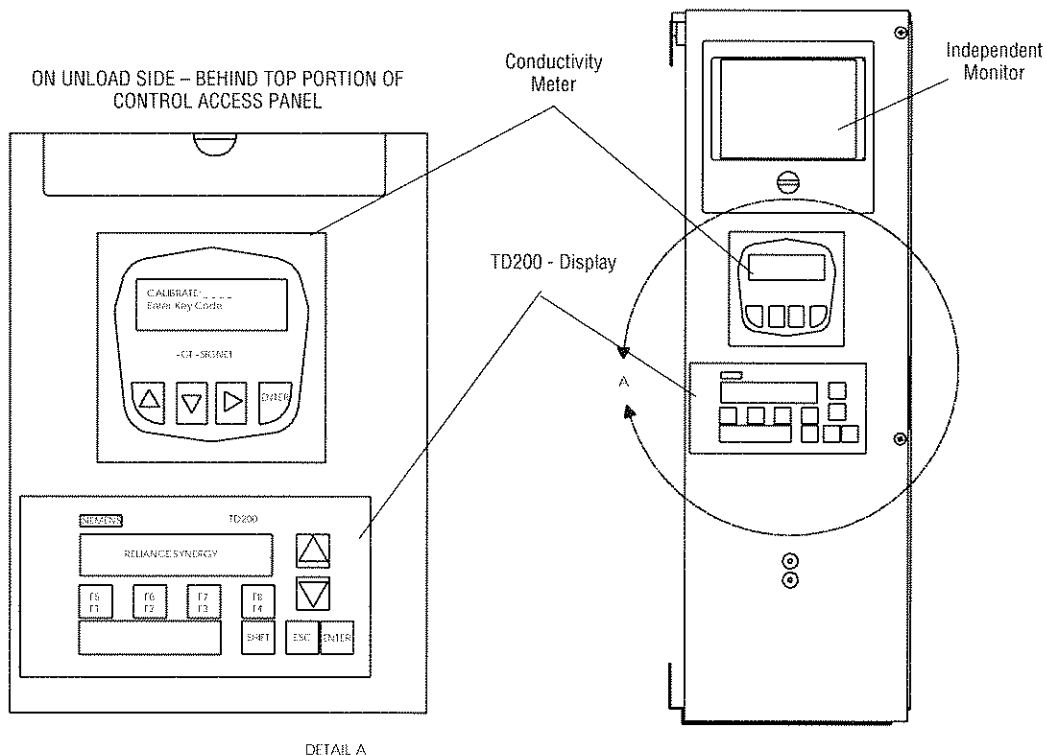
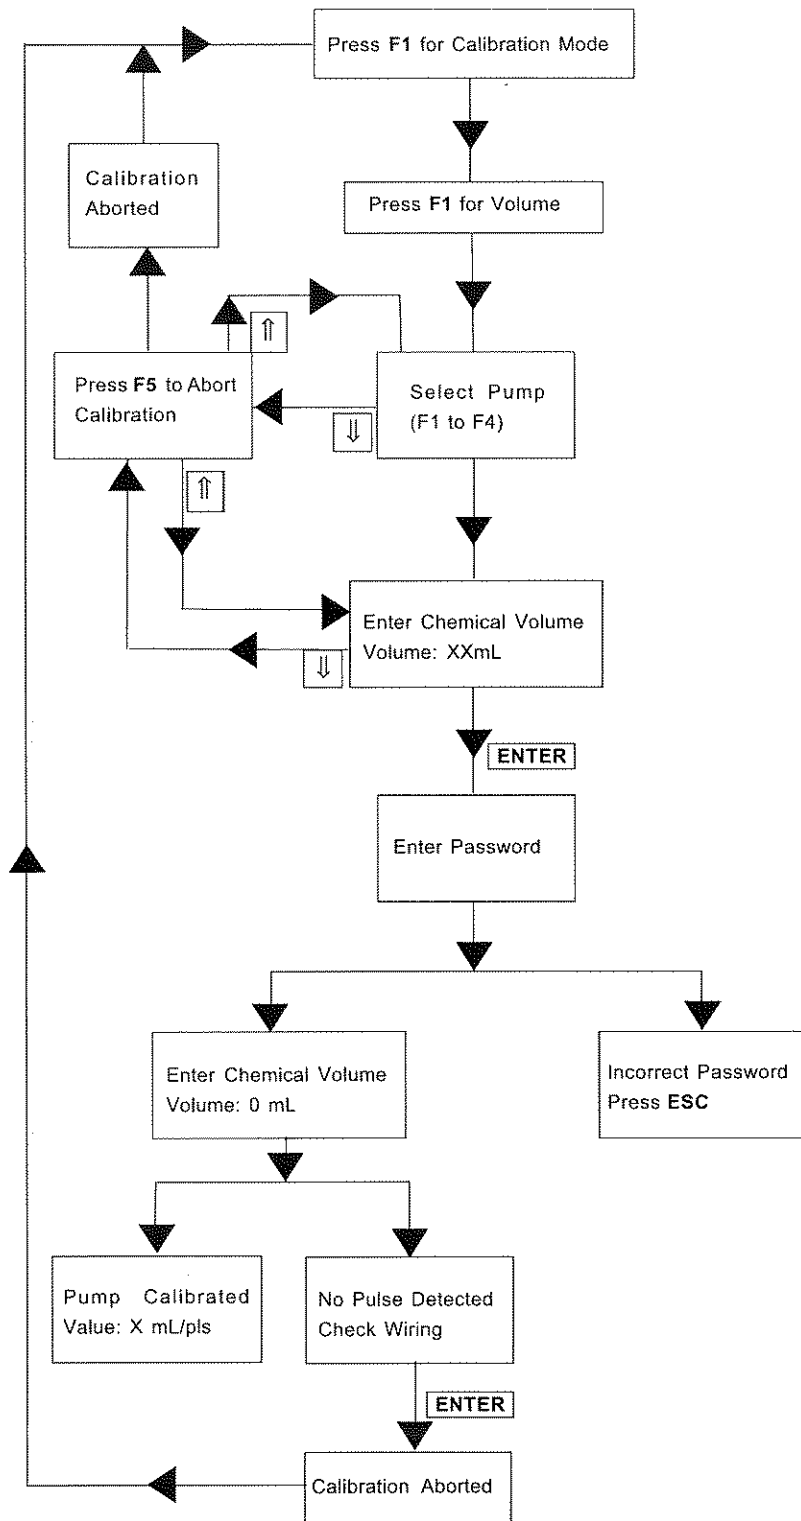

Figure 4-4. Conductivity Meter and TD200 Display Location
Figure 4-5. TD 200 Display: Chemical Pump Calibration Flow Chart
4. Locate conductivity meter behind the top portion of the unload side control access panel (see Figure 4-4). Follow these steps on the conductivity meter to enter the Calibration Mode (see Table 4-3).
1. Locate TD 200 Display, behind the top portion unload side control access panel, below the conductivity meter (see Figure 4-4). Press **F1** to enter the Calibration Mode (see Figure 4-5).
1. Press **ENTER** on the TD 200 display (see Figure 4-5).